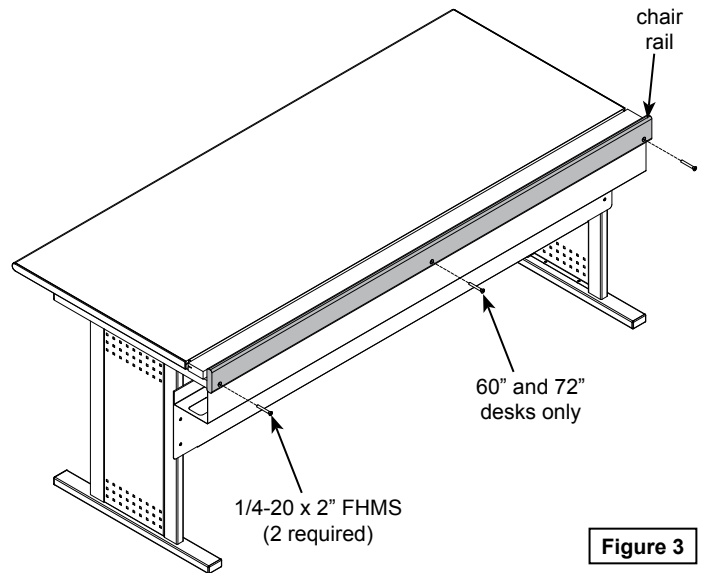

Figure 3
2. Attach the chair rail with (2) 1/4-20 x 2" FHM screws as shown. **Figure 3.** The chair rail should extend above the worksurface, and the countersunk holes should be on the outside.